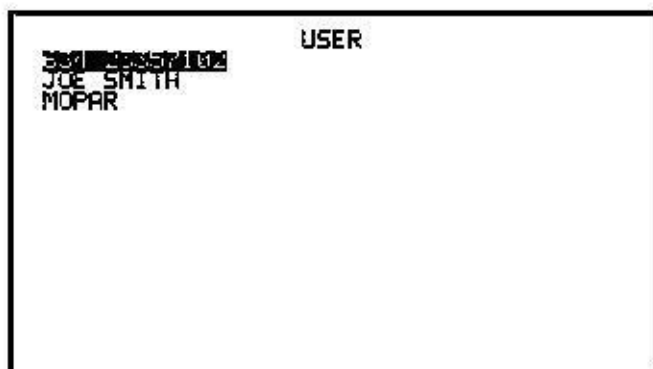

Figure 2-13
2. Press DOWN ARROW until arrow cursor is pointing to book icon, then press ENTER. A list of stored User Specifications will be appear in display (see Figure 2-13).